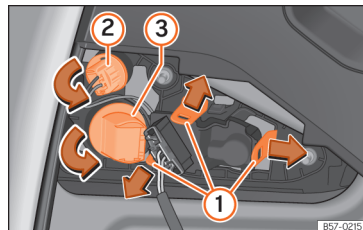

Fig. 62 Remove the bulb holder.
- Unlock the securing tabs from the bulb holder »» Fig. 62 ① or turn the bulb holder to the left ② and ③.